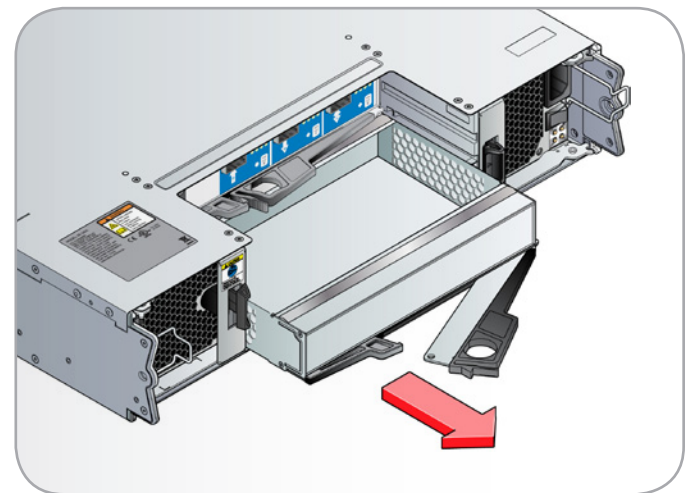

Fig. 81 - Unlatching and Removing the Blank I/O Module
3. Using the latch as a handle and withdraw from the module (Fig. 81).